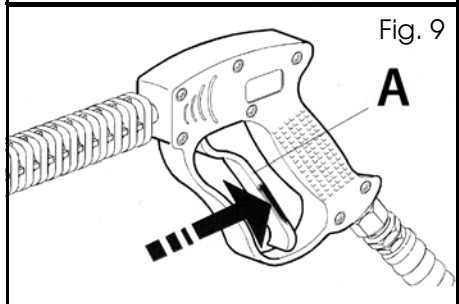

Fig. 9
3. Take hold of the lance and pull the trigger (A) as shown in Fig. 9.